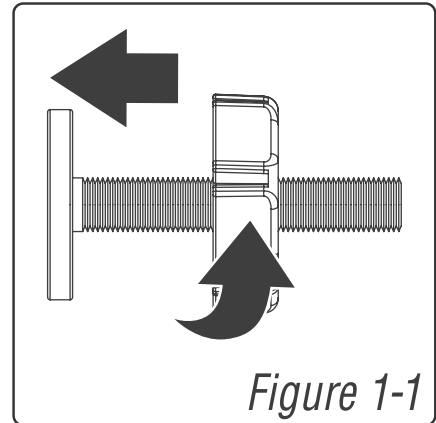

Figure 1-1
Locate the (4) threaded spindle rods (B). Rotate the adjustment wheels along the threading, eliminating the gap between the adjustment wheel and the rubber foot (*Figure 1-1*)